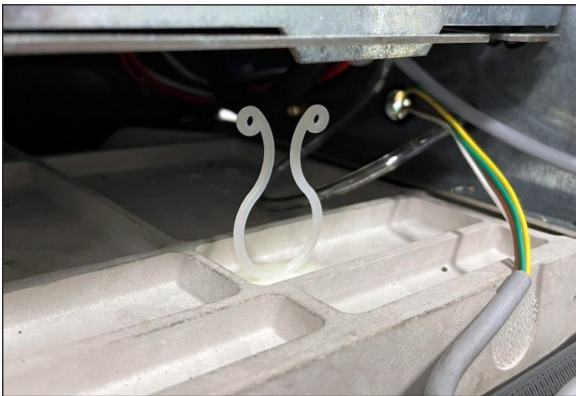

Fig. 1. Light grey modem harness.
1. Locate light grey modem harness on right side (22" Machine) or left side (30" Machine). Undo twist tie and feed connectors through bushing nearby on rear panel. See fig. 1.